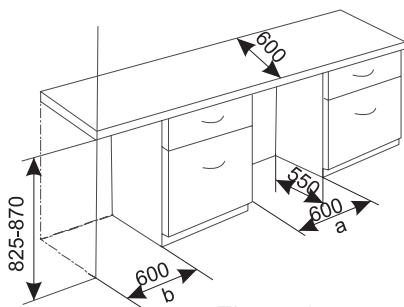

Figure 1
1. The furniture's dimensions must comply with those shown in Figure 1. The appliance can be inserted under the worktop between two (a) or placed as a terminal unit(b).